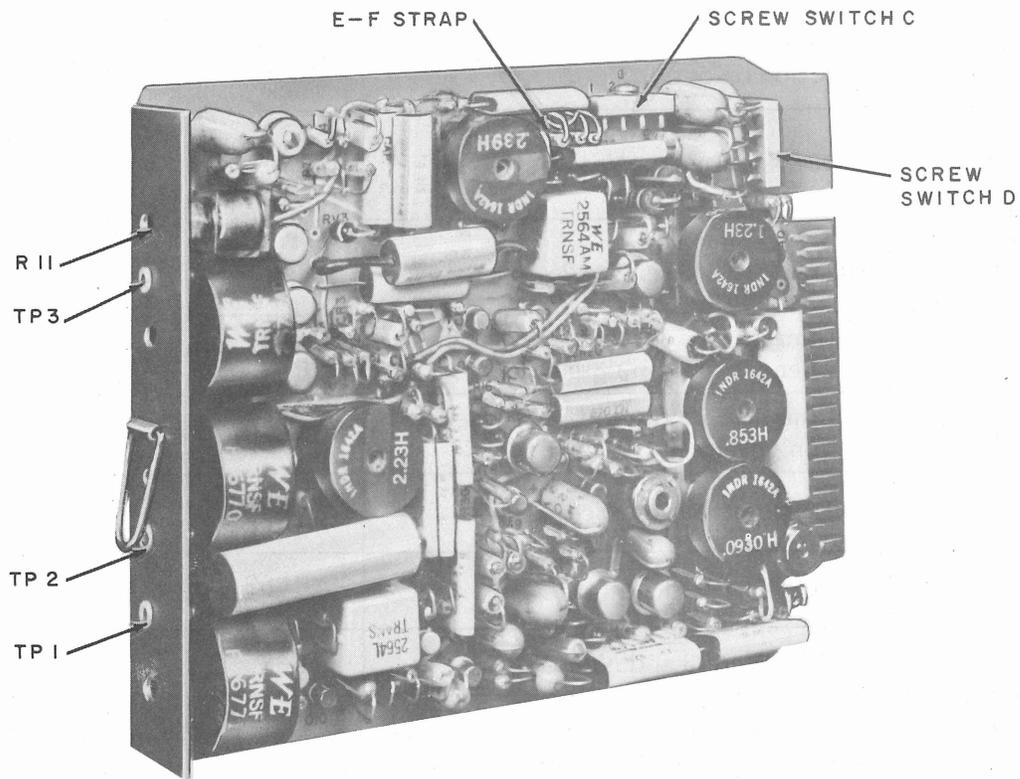
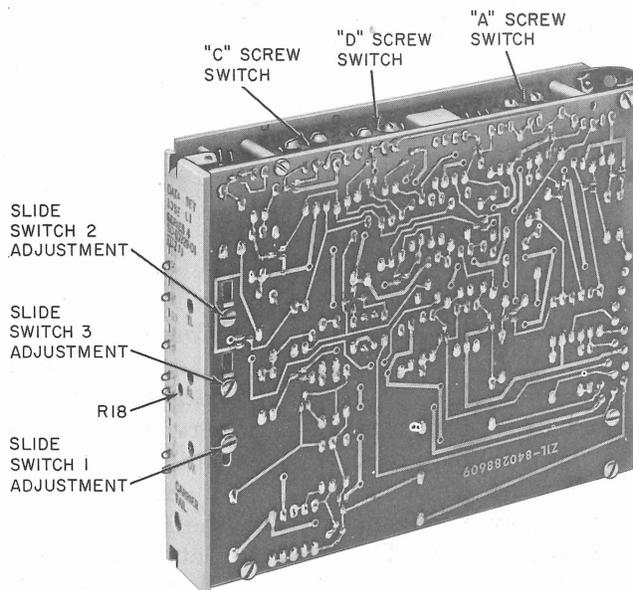

Fig. 20—Data Set 108A-Type—Location of Test Points and Screw Switches
Fig. 21—Data Set 108E-Type—Location of Test Points and Screw Switches
4.01 Screw Switch D (Fig. 20 for data set 108A-type, or Fig. 21 for data set 108E-type) may have been set to provide maximum data set sensitivity during manufacturing tests. The gain may be reduced in steps as indicated in Table D. The gain must be adjusted to meet the requirements of each installation by setting the D screw switch as indicated on the service order and Table D.
4.02 Strapping of the hybrid network is determined by the loop impedance of the facility. The loop impedance should be shown on the service order and/or circuit layout record card. Table E shows the typical loop impedance that can be used when the cable makeup is known. Select the proper facility makeup from the TYPICAL LOOP FACILITY column or find the measured loop impedance in Table E. The screw-switch settings and strapping required for optimum trans-hybrid balance is given in Table E. Refer to Fig. 20 for the location of the screw switches and straps for data set 108A-type. Refer to Fig. 21 for the location of data set 108E screw switches.
4.05 Connect terminals + and - of portable station test set TTS-28 to TP1 and TP2 of the data set (Fig. 20 or 21). Set FUNCTION switch of TTS-28 to DBM 900Ω TERM O position.
4.07 Adjust R11 on data set 108A or R18 on data set 108E for the output level specified on service order and/or circuit layout record card (see Fig. 20 and 21).